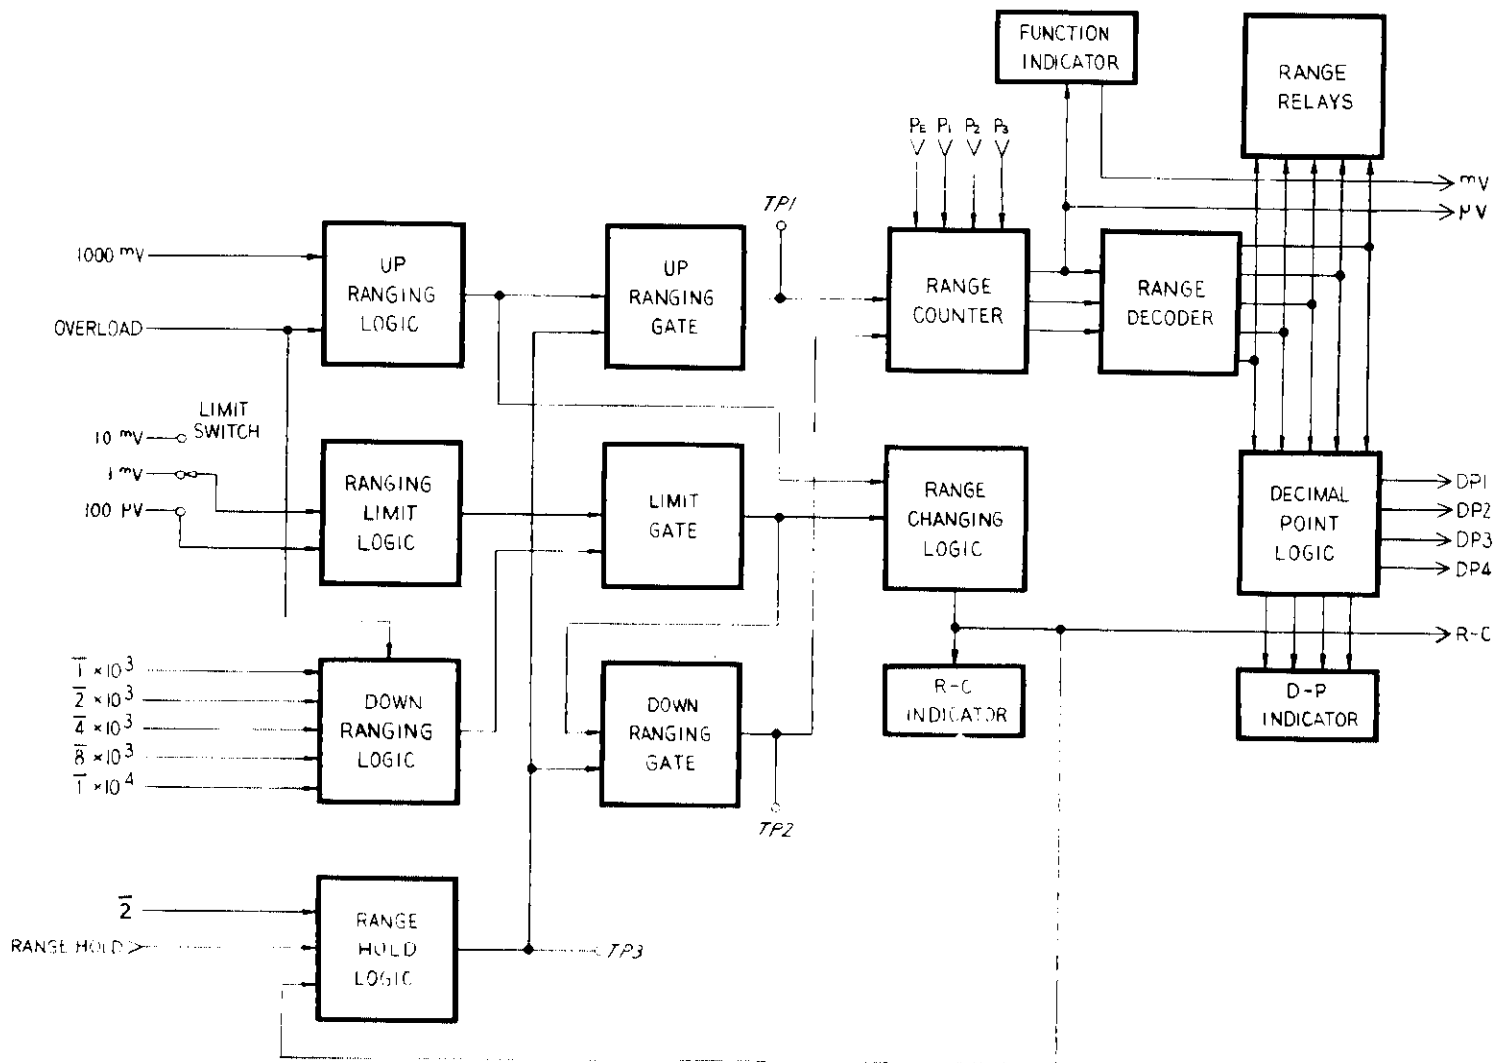

FIGURE 17. Ranging Block Diagram.
3. Autoranging. The autoranging circuit permits manual, automatic, or auto-remote operation through the use of various logic and control circuits. The overall block diagram of the autoranging circuit is shown in Figure 17.